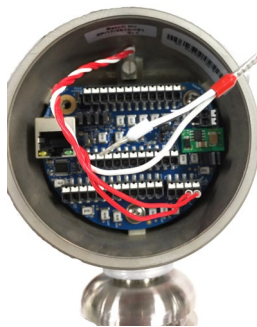

Figure 3. Cable connectors
2. After the RTD Cable wire is inserted, insert the two red wires into pins 1 and two as shown in Figure 3. The white connector and jumper is shown and will be inserted into pins 3 and 4 in the next procedure.